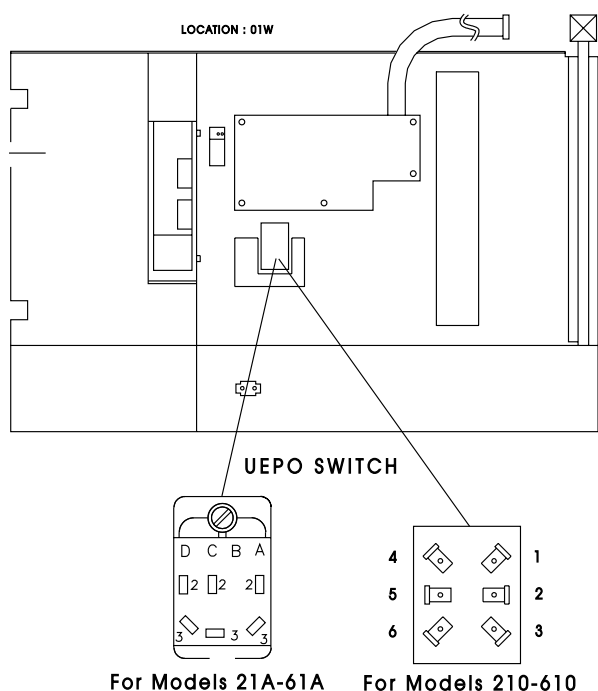

Figure 2-5. UEPO Switch
- Check for the presence of 24 V on the UEPO Switch (see Figure 2-5 on page 2-24). Use a CE meter and check for 24 V between the ground and the two wires connected to:
- Put the UEPO switch in the **I** position as follows (See Figure 2-5 on page 2-24):